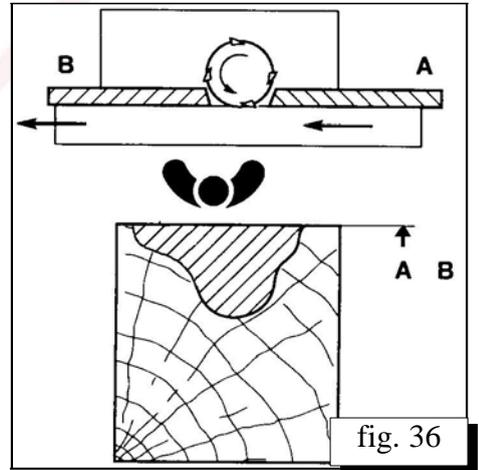

fig. 36
- ⌘ If the profiling will not done at the whole side of the detail the two fulcrum rulers are at the equal level /fig. 36/.